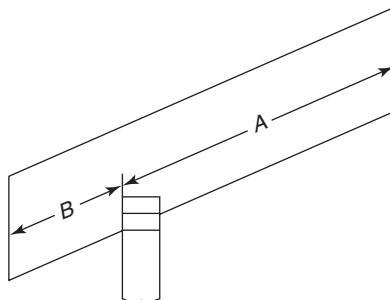

Figure 16-7
2. Distance from ridge to plumb cut of bird's mouth, A (see Figure 16-7)